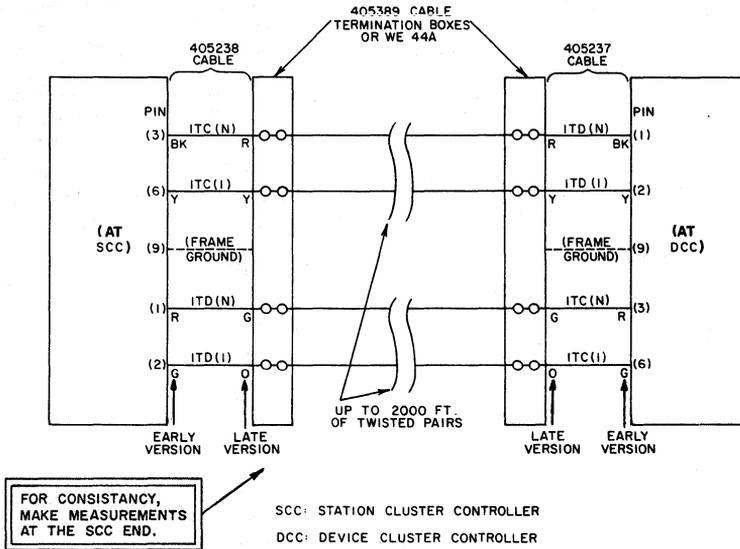

Fig. 18—DC Tests On Cable Pairs Between SCC & DCC
7.05 The foreign voltage tests require a Simpson 260 VOM or equivalent. See Fig. 18 or 19 (as applies). Perform the tests in Table A.
7.06 The Insulation Resistance tests require a Simpson 260 VOM or equivalent. See Fig. 18 or 19 (as applies) for test arrangement. Perform the tests in Table B.
7.07 The Loop Resistance tests require a Simpson 260 VOM and a jumper. See Fig. 18 or 19 (as applies) for test arrangement. Perform the tests in Table C (check the range setting on the VOM).